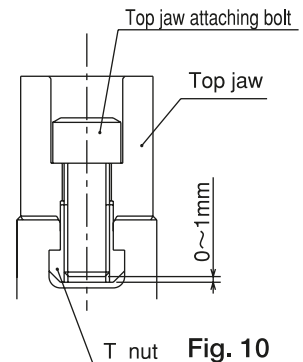

Fig. 10
- If the screw-in depth of the jaw attaching bolt to the T nut is shallow, the T nut will break, and this is dangerous as the jaw and work will fly out. If the attaching bolt is too long and comes out from the bottom of the T nut as well, this is dangerous as the jaw and work will fly out since the top jaw is not fixed. Therefore, the overall length of the jaw attaching bolt must be approximately 0 to -1mm from the bottom of the T nut (Refer to Fig.10).